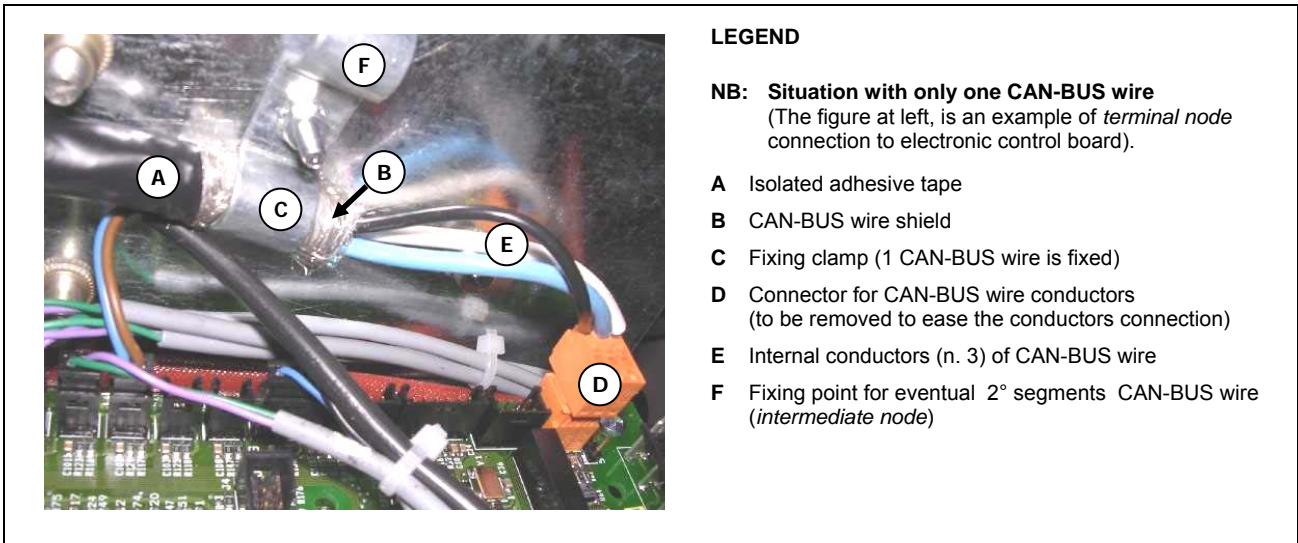
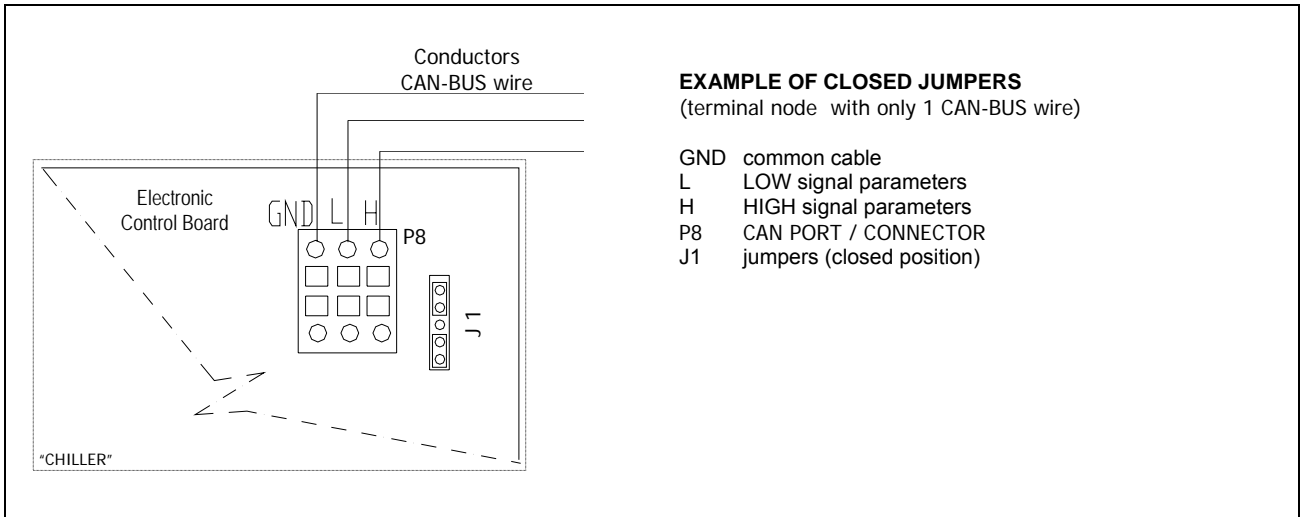

Figure 20 – EXAMPLE OF CAN-BUS CONNECTION TO ELECTRONIC CONTROL BOARD (EXAMPLE WITH ONLY ONE CAN-BUS WIRE)
Figure 21 – DETAILED EXAMPLE OF THE CONNECTION OF ONLY ONE CAN-BUS WIRE WITH THE ELECTRONIC CONTROL BOARD
1. Turn over the whole CAN-BUS shield (the aluminum part and the metal braiding) of the cut sheath part and fix it to the clamp (details B and C, Figure 20)
Isolate the whole shielded part of CAN-BUS wire after fixing clamp to avoid any contact between the shield and the electronic control board (Particular A, Figure 20).
2. Extract from the electronic control board the orange color connector from its CAN Port (placed in right top angle of ECB: particular D Figure 20) and proceed with the following instructions of point 3.
- 3a** Connect 3 conductors of CAN-BUS wire (particular E, Figure 20) respecting the signal/color indications as in Table 9, page 37 with 3 inlets H, L, GND of the same connector as in Figure 20 (see also details of Figure 21, page 39).
- 3b** Repeat the same procedure of point 1 when connecting the 2nd CAN-BUS wire segment by fixing the 2nd wire to the same clamp (particular F, Figure 20).
- 1st CASE: on the orange connector of CAN port, there are three conductors (terminal nodes): in this case, the 2 jumpers existing beside the orange connector of CAN Port should be adjusted as indicated in Figure 21, page 39 (detail J1).
1. Open air bleed(s) located at the highest point in the system. Connect a hose between the charging pump and Valve A. Connect a hose to Valve C and place the other end of this hose into the mixing container (See Figure 21).